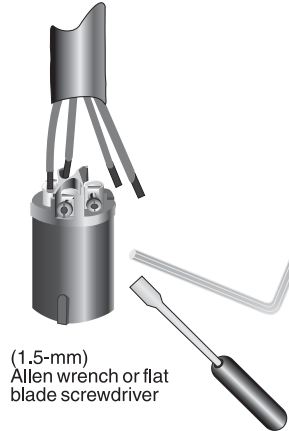

Figure 1.13
2. Strip approximately 3/4-inch (20-mm) of casing from the cable end. Strip approximately 3/8-inch (8-mm) from the end of each of the conductors down to bare wire (C).
- 3a. Insert each wire into the top of appropriate slot of the connector insert (B) as shown in Figure 1.13. Use a (1.5-mm) allen wrench or flat blade screwdriver to tighten the side connecting screws.